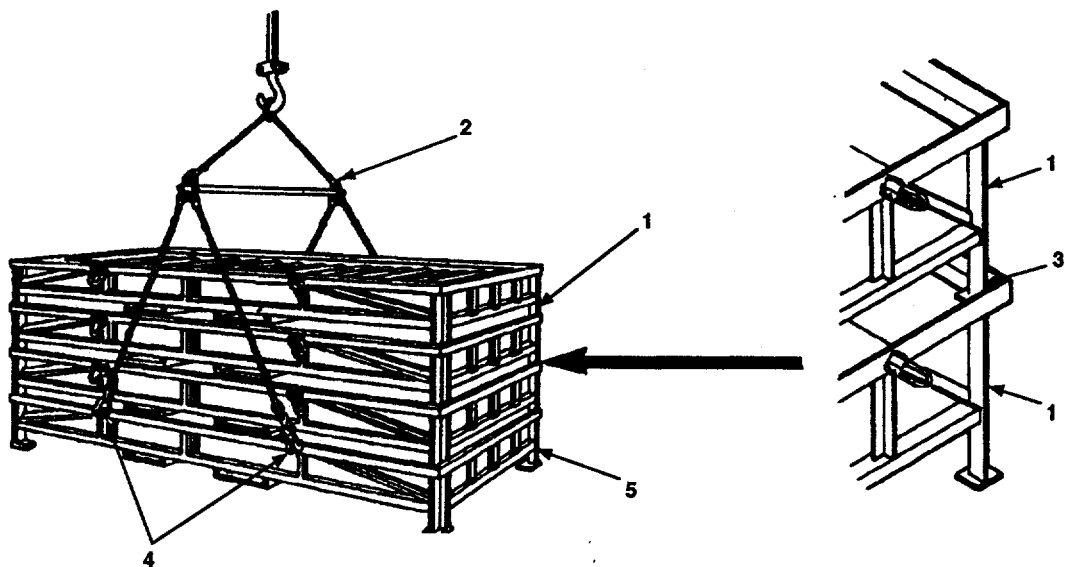

Figure 2-30. Loading and Securing Flaking Boxes.
2.3.8.4 Preparation for Hose Laying. To prepare for hose laying, flaking boxes (Figure 2-30, 1) are first loaded on truck. A forklift or crane with lifting sling (2) is used for loading. Remove flaking boxes (1) from crate and proceed as follows:
- a. Make sure each flaking box (1) is properly aligned and nested in top angle (3) of flaking box (1) below.